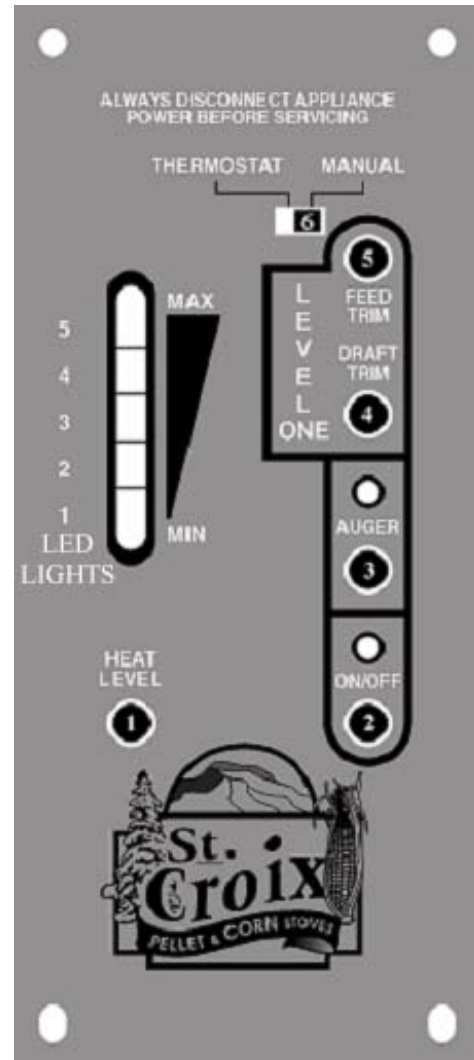

Figure 2
A closer look at the Control Board to the right in figure 2 will explain how the board works. There are five buttons labeled 1 through 5, a slide switch labeled 6 and a LED Light bar with 5 Heat Settings. ***The LED Light bar is also used during the Diagnostic process, see page 8 for more details.***
The buttons on the board function as follows: (Refer to Figure 2. The touch pad buttons and Slide Switch are labeled with the white numbers 1 through 6)
4. Close the door and push the On/Off button on the control board. (*Button #2, see figure 2*)
Shutting The Stove Off (Refer to Figure 2)
The #2 LED and the #3 LED lights on the LED Light bar as show in Figure 2 will flash to give a diagnostic code to help in diagnosing problems that may occur.
1. The **Proof of Fire** switch. This switch will sense the temperature of the Exhaust rising during start up. If the Exhaust temperature does not reach 110 degrees F, or if during use the temperature drops below 110 degrees F, the Stove will go into “**Internal Alarm**” and the Auger will quit feeding fuel. Once the stove completes the safety shutdown, the #3 LED will start blinking. (See Figure 2 on Page 6 and point 4 on page 20)
2. The **High Limit** switch. This sensor will sense if the unit reaches temperatures that are too high for normal operation. If this happens the Auger will quit feeding and the #2 and #3 LED lights will flash simultaneously. (See Figure 2 on Page 6 and point 6 on page 21)
3. The **Vacuum** Switch - For the stove to operate, the Firebox needs to be sealed. During the first 30 seconds after the stove has been turned on the Control Board will check if the switch senses negative pressure (Vacuum) in the Firebox of the stove. If there is no negative pressure, the stove will shut down and the #2 LED will start blinking. (See Figure 2 on Page 6 and point 5 on page 21)